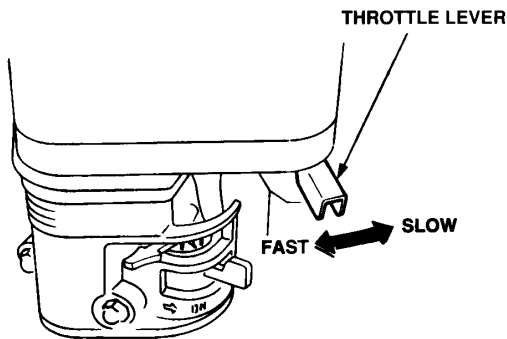

Figure 13. Throttle Lever
6. Move the throttle lever halfway between the **FAST** and **SLOW** position (Figure 13) for starting.
2. Place the engine's throttle lever (Figure 13) in the **slow** (idle) position.
3. Place the engine's throttle control (Figure 13) in the **SLOW** (idle) position.
3. Place the throttle lever (Figure 13) in the slow position. Idle engine 3-5 minutes for gradual cooling.